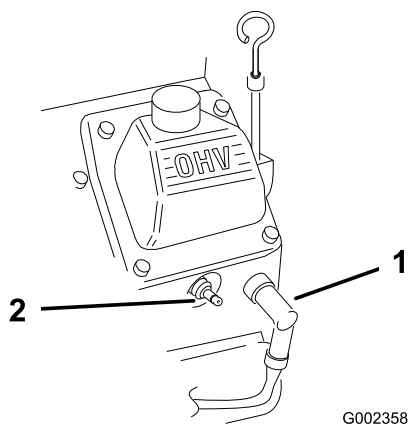

Figure 44
3. Disconnect the wires from the spark plugs (Figure 44).
3. Connect the wires to the spark plugs (Figure 44).